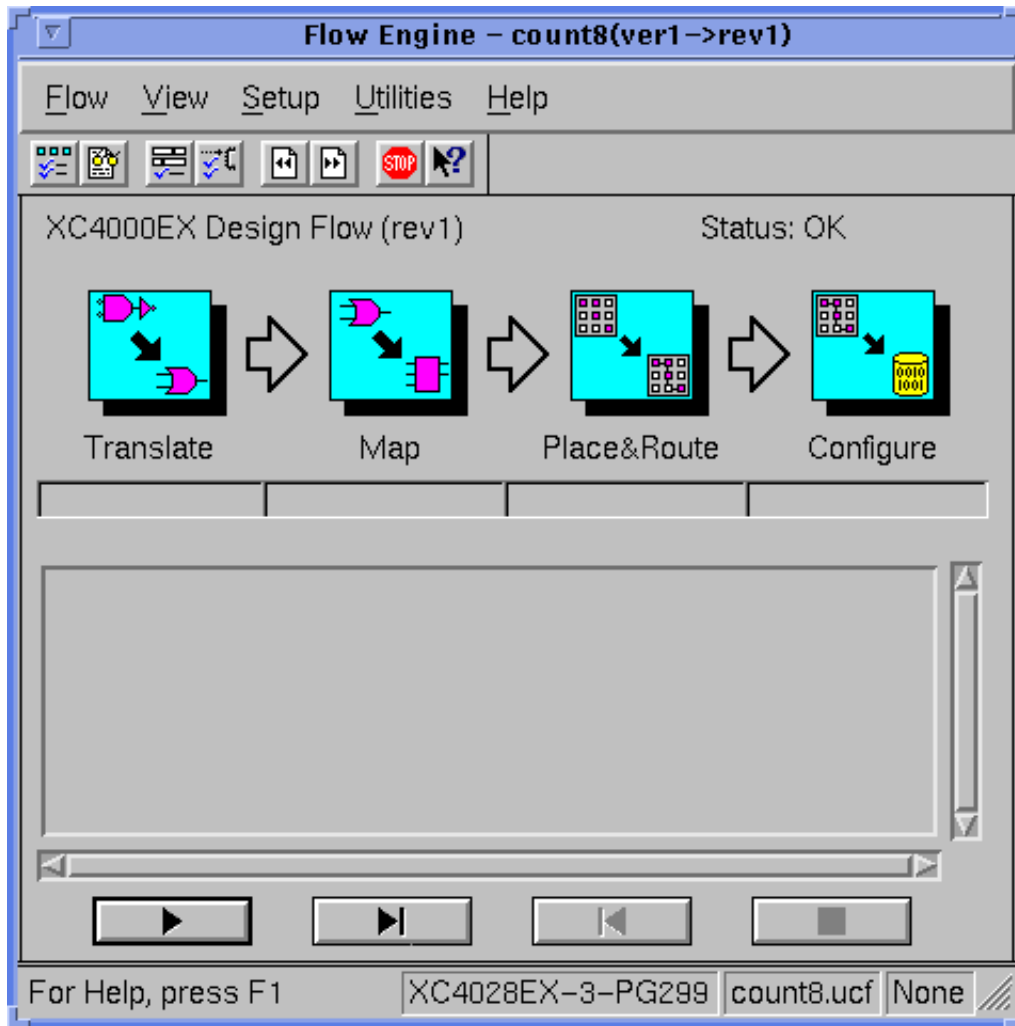

Figure 2-4 Flow Engine With “count8.ucf” Selected
Refer to Figure 2-4. The Options dialog is closed and the status bar at the bottom of the Flow Engine is updated with the specified user constraints file.
7. Click on the stop sign toolbar icon (refer to Figure 2-4).